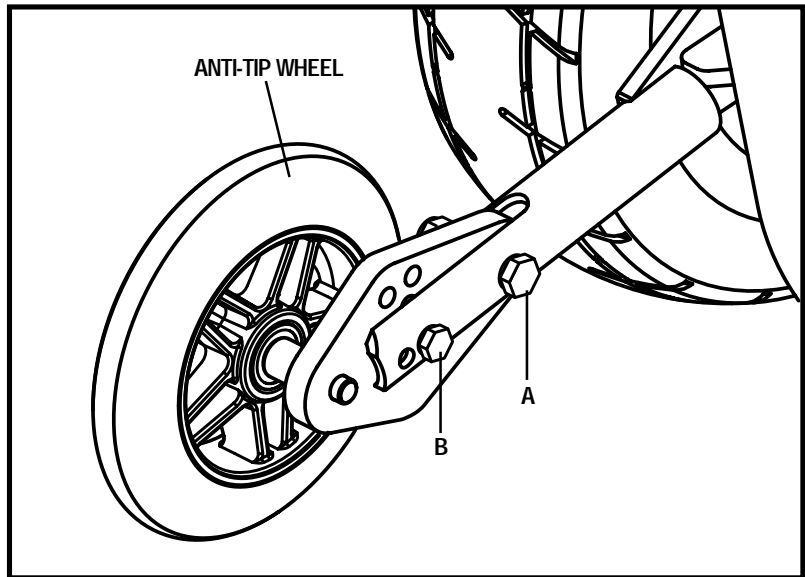

Figure 23. Anti-Tip Wheel Assembly
1. Loosen bolt A. See figure 23.